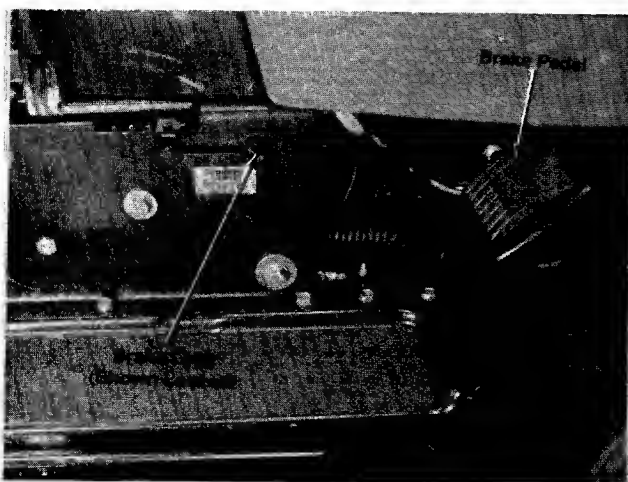

FIGURE 9.
c. **Brake.** The brake pedal is located on the right hand side of the mower and is operated by depressing it with your right foot. See figure 9.
d. **Brake Lock.** The brake lock is located on the right hand side of the mower. To lock the brake, depress the brake pedal and lift up the lock button. The pedal will stay depressed. To release, depress the pedal. See figure 9.